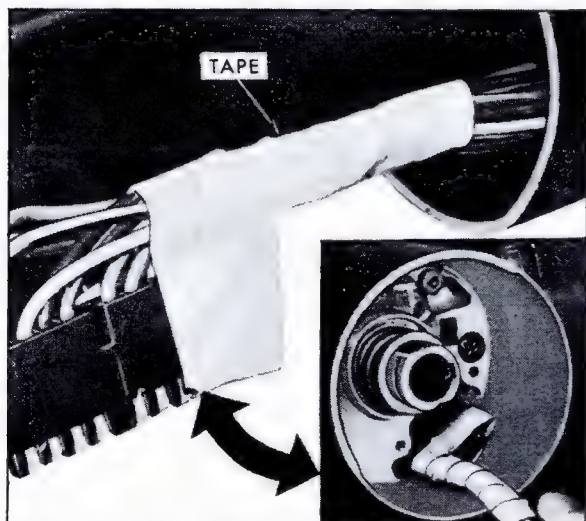

Fig. 9-47 Taping Connector
12. Wrap a piece of tape around the turn signal switch connector and harness, Fig. 9-47, to facilitate removal.
15. Pull turn signal switch straight up with wire protector attached and remove switch, switch harness and connector from column, Fig. 9-47.
10. Install turn signal switch, feeding the harness, connector and harness protector down through the housing, Fig. 9-47.